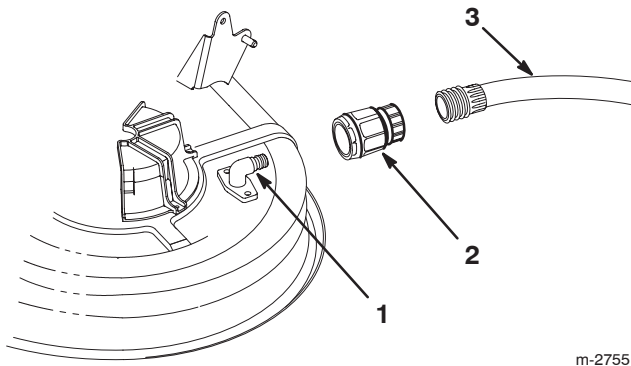

Figure 53
4. Screw the coupling to the end of a garden hose, attach the coupling to the mower washout fitting, and turn the water on high (Fig. 53).